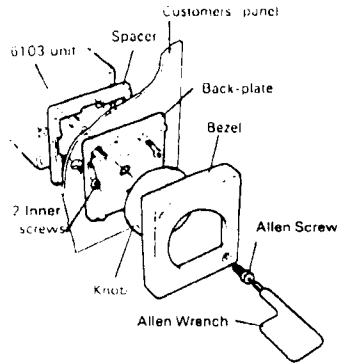

Figure 2-1. Exploded View of Front of 6103
2.3 MOUNTING—INSTALLATION INSTRUCTIONS (refer to Figure 2-1)